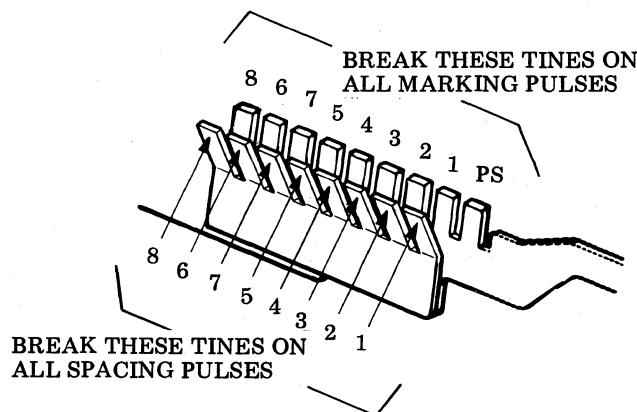

Figure 1 - 180801 Universal Function Lever
2.04 The tines of the 180801 function lever are numbered from right to left in (Figure 1) as follows: PS, 1, 2, 3, 4, 5, 7, 6, 8.